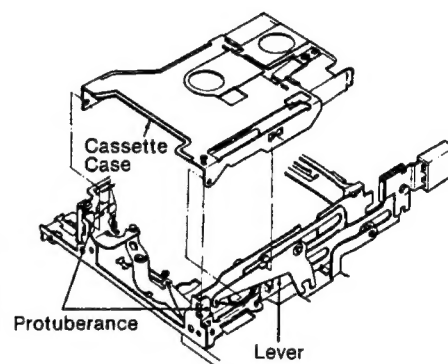

Fig. 13
(2) Insert the cassette case as shown in fig. 13.